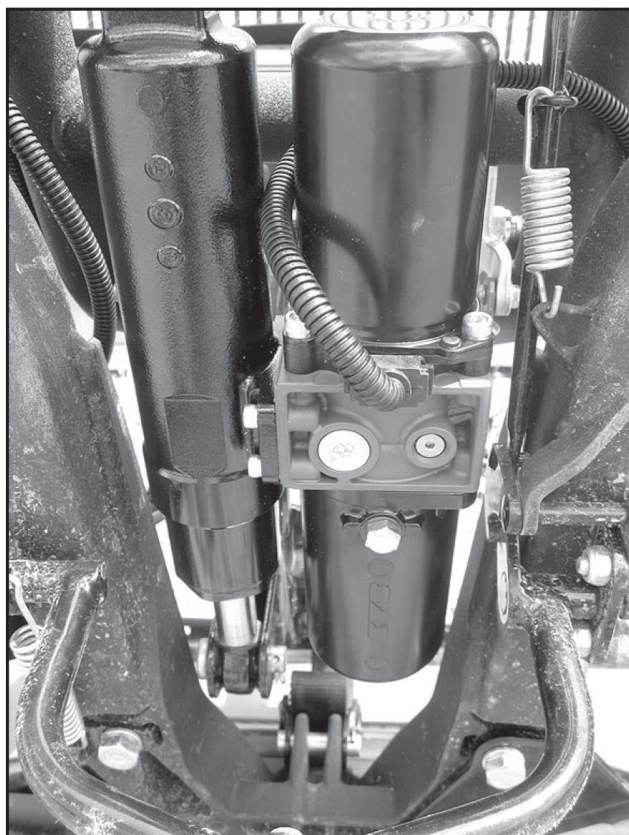

Figure 24
5. Route the power wires between the motor and the lift cylinder as shown in figure 24.